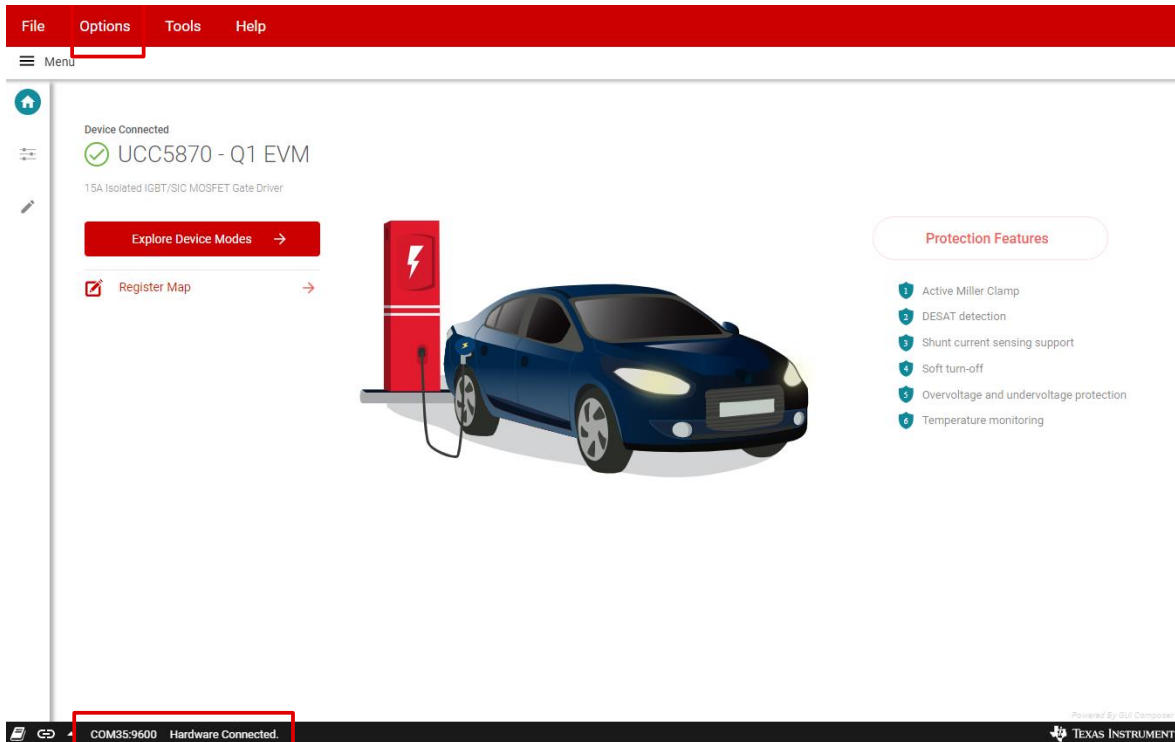

Figure 6. GUI First Page
3. Open the GUI, The home page should look like as Figure 6,The bottom pane should show 'Hardware Connected' after few seconds. In case it is not connected, Click 'Options' -> 'Serial port' and choose the appropriate serial port from the list of available ports.